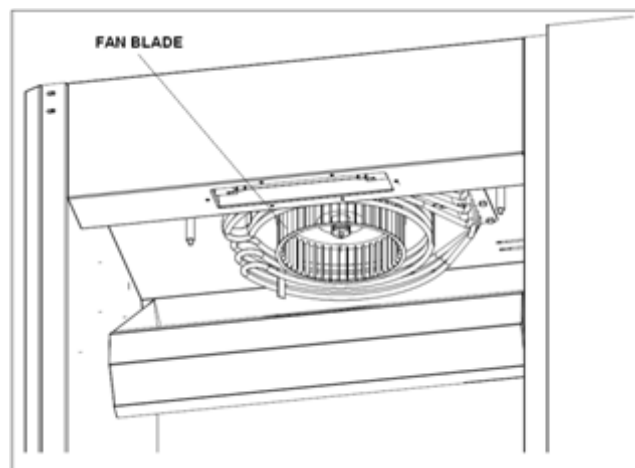

Figure 20
- Clean the fan blade with a cloth and grill cleaning agent (see Figure 20).